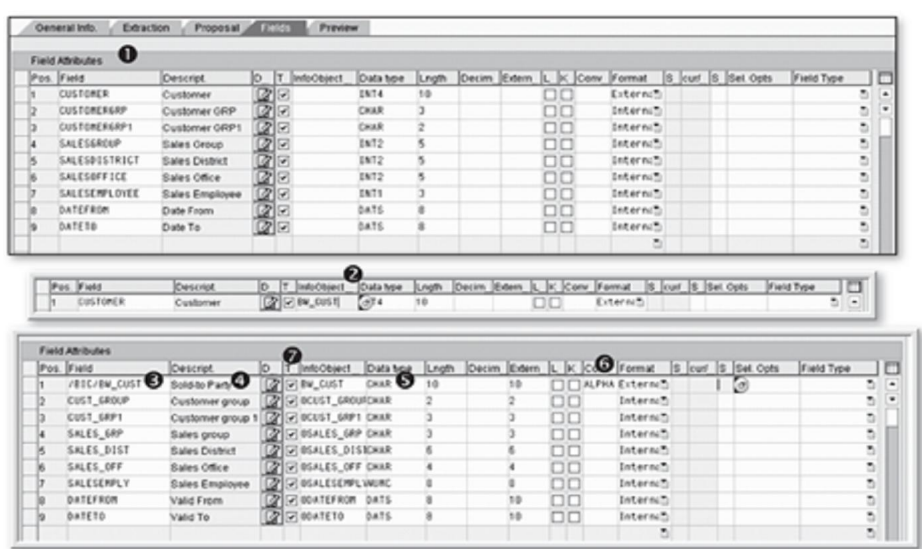

Figure 7.14 Create DataSource: Fields Tab
This is the tab where you finalize the structure of your DataSource. The data proposed by the system (in the Proposal tab) also appears here (❶ of Figure 7.14), and you can overwrite, if necessary. It's important to make sure that the sequence of fields given in this screen is the same as in the actual data file. Because we've used the proposal function, we don't have to worry about this; however, we do need to correct the technical specifications of the fields proposed. The best way to do this is to enter the technical name of the InfoObject in the InfoObject column. As we know from the data available in the actual data file, the first field pertains to the customer, which means InfoObject BW_CUST is used. Enter "BW_CUST" in the InfoObject column (❷), and press Enter. The Defaults from InfoObjects pop-up box appears. Click on the Copy button, which reads the metadata definition of the InfoObject.
The result is shown in ❸, ❹, ❺, and ❻ of Figure 7.14. The system now reads the metadata from InfoObject BW_CUST, so the data type is changed from INT4 to CHAR. The conversion routine is also added as ALPHA, which was blank earlier.
Another important setting in this tab is shown in the T column (7 of Figure 7.14), which stands for "Transfer." A checkmark in this column indicates that you've chosen to include this field in the definition of DataSource. Our example requires that all of the fields be included, so we leave all fields checked.